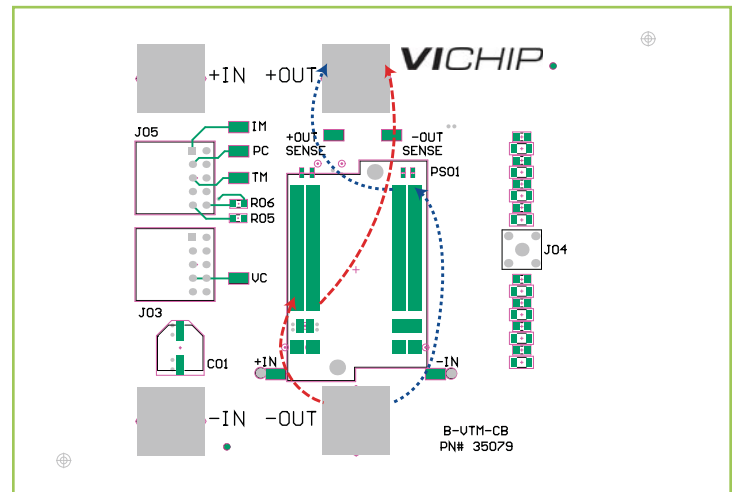

Figure 22 — Equal current path
- The total current path length from any point on the V_{+OUT} J-leads to the corresponding point on the V_{-OUT} J-leads should be equal (see Figure 22).